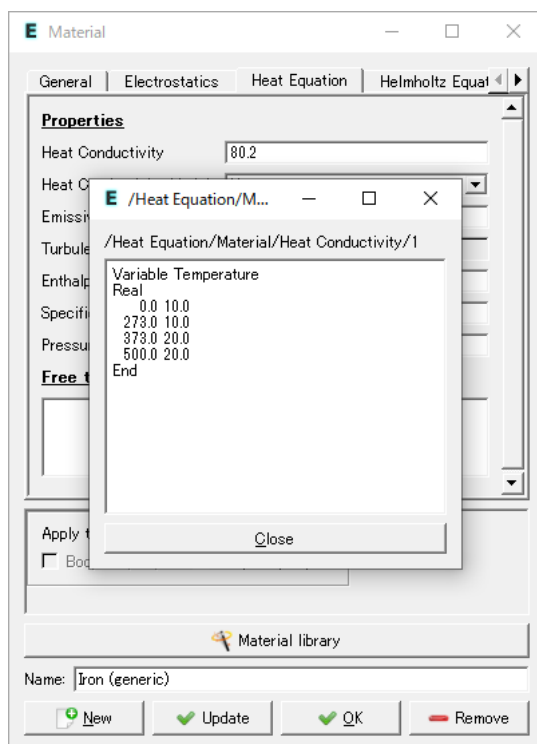

Figure 4.6: Text edit extension of a line edit box is activated by pressing Enter.
**Note:** If you set focus in a line edit box of a dynamical menu and press Enter, a small text edit dialog will pop up. This allows the input of more complicated expressions than just constants. As an example, go to *Model* → *Material* and choose *Add...* Place the cursor in the “Heat conductivity” line edit box of “Heat equation” and press Enter. You can then define the heat conductivity as a function of temperature as a piecewise linear function. An example is show in Figure 4.6. In this case, the heat conductivity gets value 10 if the temperature is less than 273 degrees. It then rises from 10 to 20 between 273 and 373 degrees, and remains constant 20 above 373 degrees.